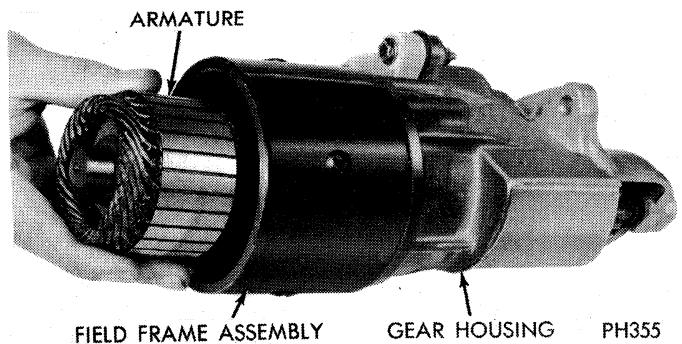
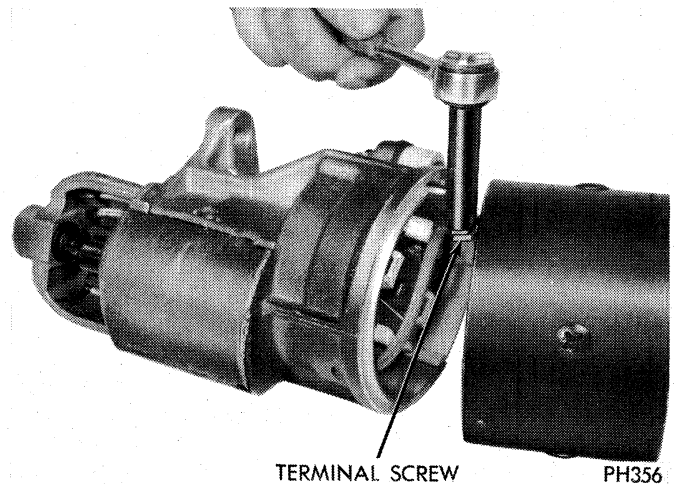
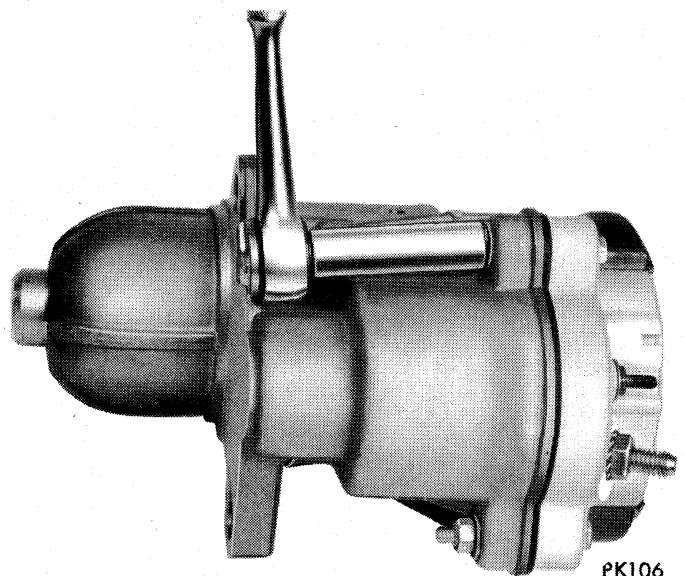

Fig. 7—Removing Armature
Fig. 8—Removing Terminal Screw
Fig. 9—Removing Solenoid and Brush Plate Attaching Nuts
(2) Carefully remove armature from gear housing and field frame assembly, by pulling outwards, (Fig. 7).
(3) Carefully pull field frame assembly from gear housing far enough to expose terminal screw.
(4) Remove terminal screw. It may be necessary to support terminal by placing finger behind it, (Fig. 8).
(5) Remove field frame assembly.
(6) Remove nuts attaching solenoid and brush holder plate assembly to gear housing, (Fig. 9).